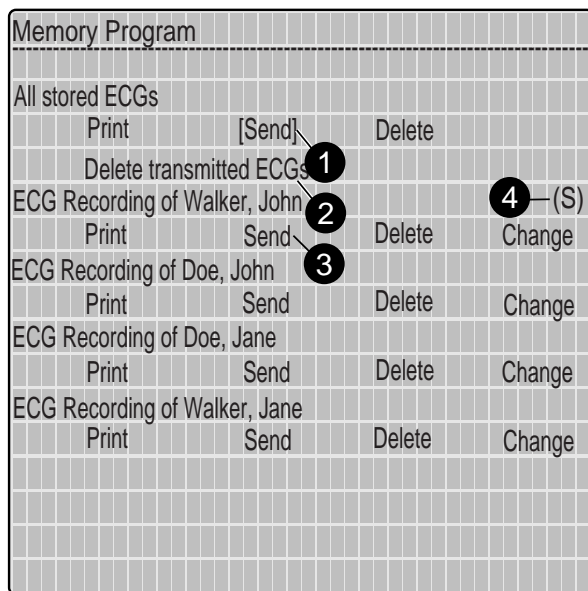

Figure 5-10. Memory program
Activate the memory program by simultaneously pressing  and  (press the  button first and hold it depressed) (Figure 5-10).
- To transmit all stored ECGs in one pass, position the cursor on "All stored ECGs - Send" (1, Figure 5-10), to transmit only one ECG, position the cursor on the "Send" command of that ECG (e.g. 3, Figure 5-10).